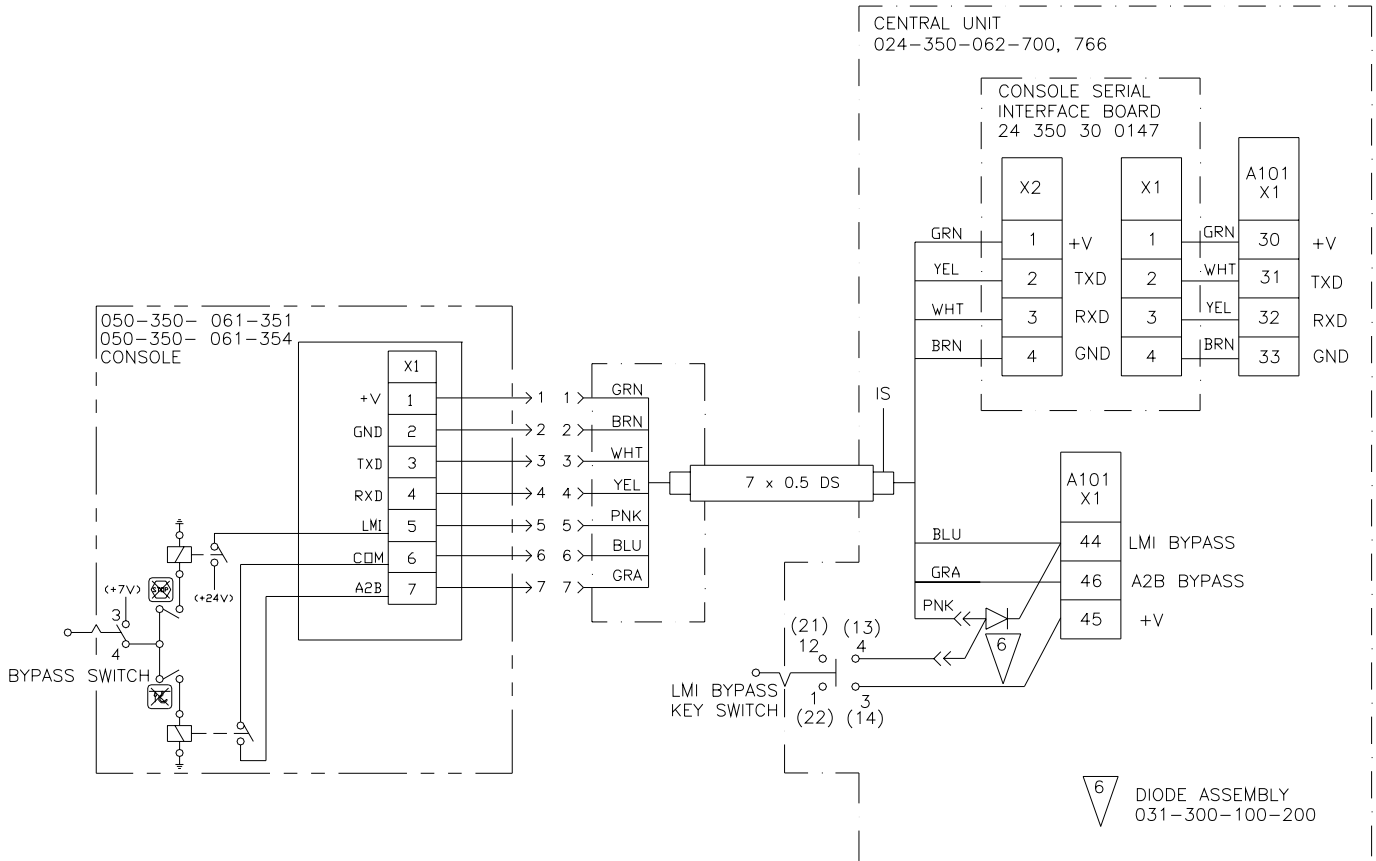

Fig. 15
2. Install 1/8" and 1/4" female terminals on wire ends and attach to connection board and diode assy per electrical schematic. (Fig. 15)